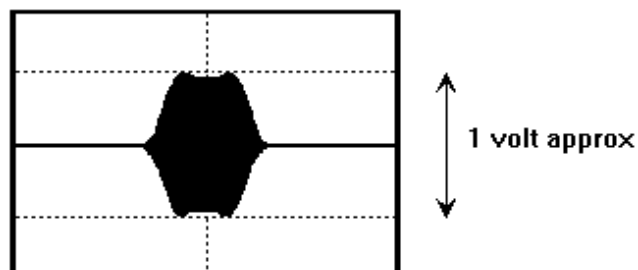

Figure 7.1: Ripple Response
7. Adjust transformers T3^[B6] and T4 and inductor L10 for minimum ripple response. (Refer to Figure 7.1.)